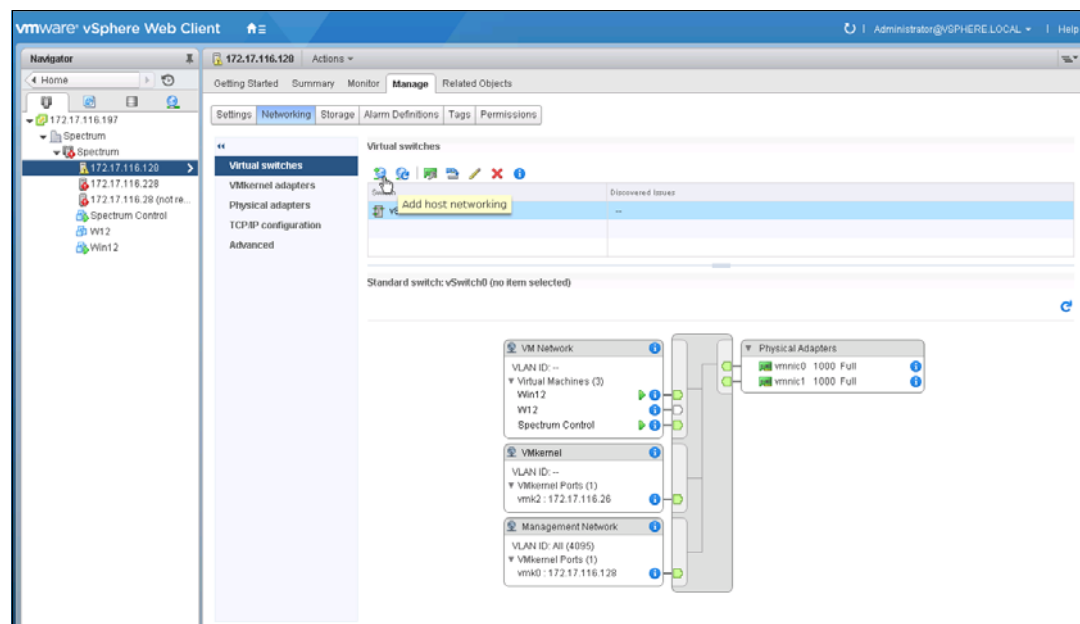

Figure 5-19 Select VMware networking
1. Connect to your ESXi server by using the vSphere Client. Go to **Manage**, and select **Networking** (Figure 5-19).